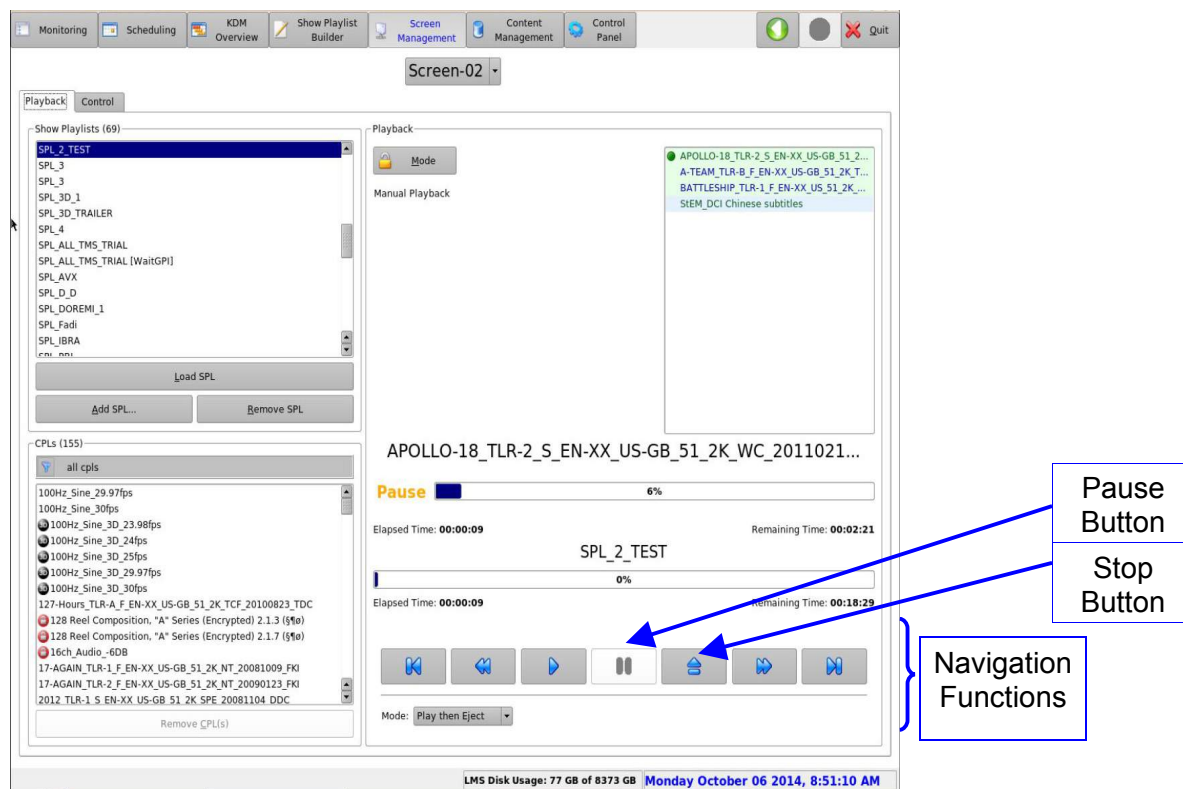

Figure 73: Screen Management Tab - Manager Account
When logged in as manager or admin, the user will be able to navigate within the Show Playlist. To navigate within the Show Playlist, the user must be in Pause mode. The user is able to load a Show Playlist and manage CPLs and SPLs (Figure 73).
- To enter Pause mode, click the Pause button (Figure 73).